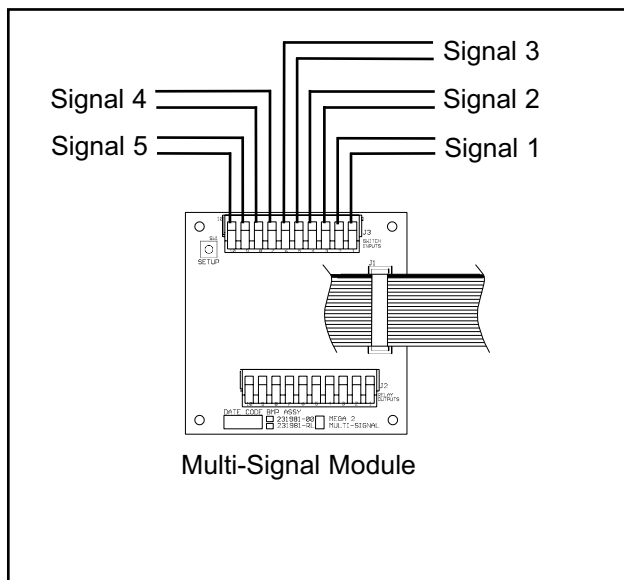

Figure 22: Source Signal Wiring Termination
3. Connect each pair of signal wires to desired multi-signal module terminals. The terminals are labeled “Signal 1” through “Signal 5”. Signal 1 corresponds to top row of indicators on front panel of multi-signal module. Signal 5 corresponds to bottom row. Refer to Figure 22.